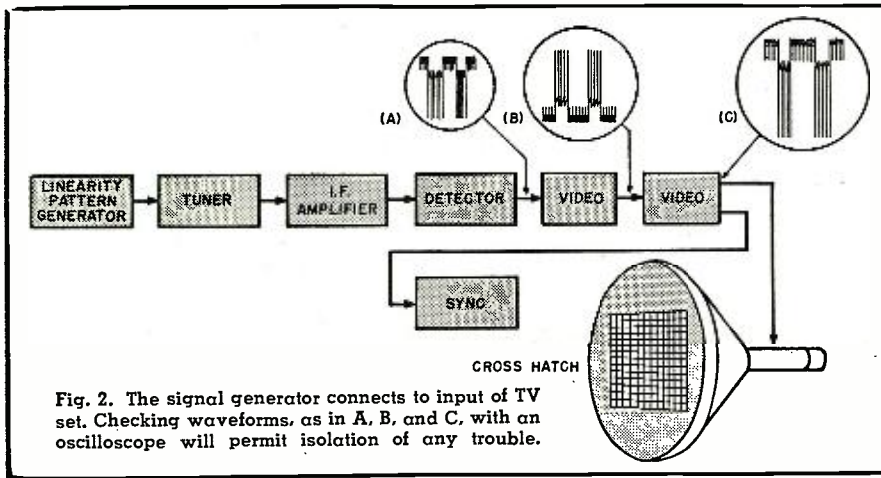

Fig. 2. The signal generator connects to input of TV set. Checking waveforms, as in A, B, and C, with an oscilloscope will permit isolation of any trouble.
Fig. 2. Inductance and capacitance of parallel (A) and series (B) circuits. Graphs shown are for R_o equal to 8 ohms. L-C equations for other values of R_o are included.